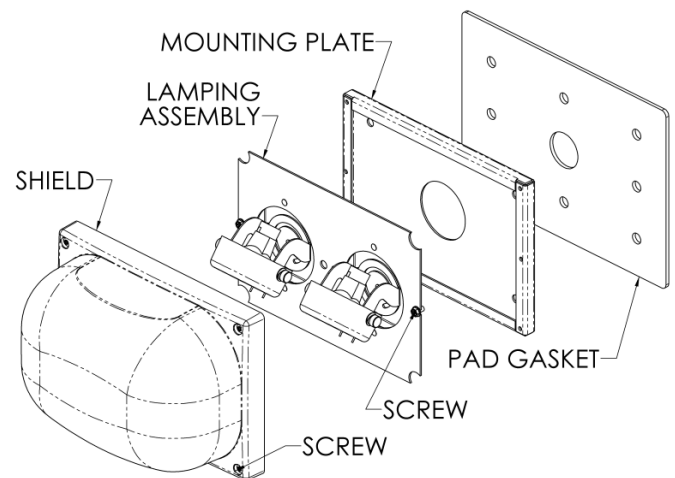

Figure 1
Disassembly (Figs. 1, 2): Remove SHIELD by loosening (4) SCREWS at corners. Remove LAMPING ASSEMBLY by removing (2) screws where shown.
Assembly (Figs. 1, 2): Install LAMPING ASSEMBLY. Rotate lamps to desired position. Thumbscrews may be tightened to secure aiming. Install SHIELD.